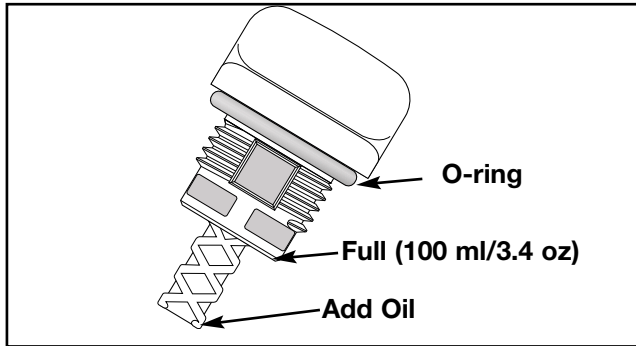

Fig. 17
4. Remove the oil fill plug / dipstick and check the oil level. The oil level should be up to the top of the dipstick (Fig. 17).
5. If the level is low, add the oil to the top of the dipstick (Fig. 17). Always check the level with the dipstick before adding more oil.